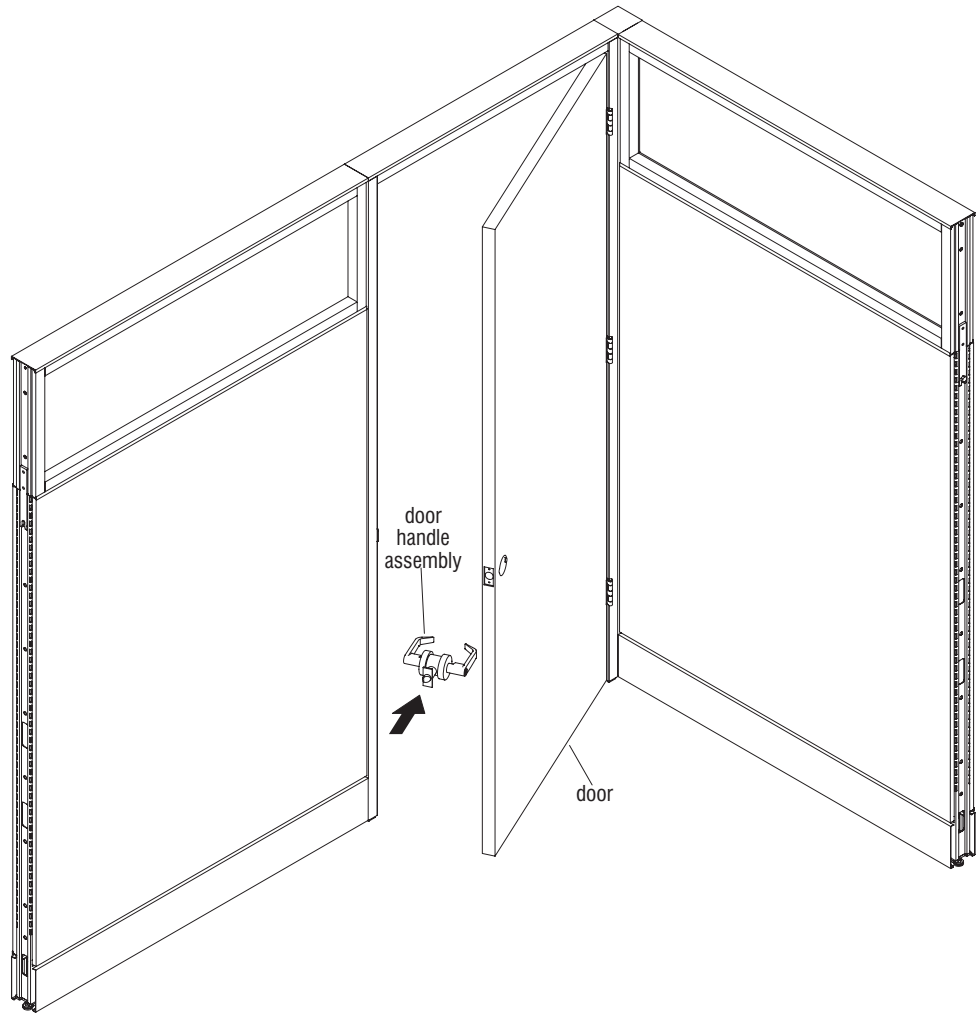

Figure 8
21. Instructions for door handle installation should be located inside the handle kit. Two types of handles are available: (1) Passage and (2) Key Lock. If key entry is used, determine which side the key should be located (typically the outside) and install appropriately according to instructions (Figure 8).